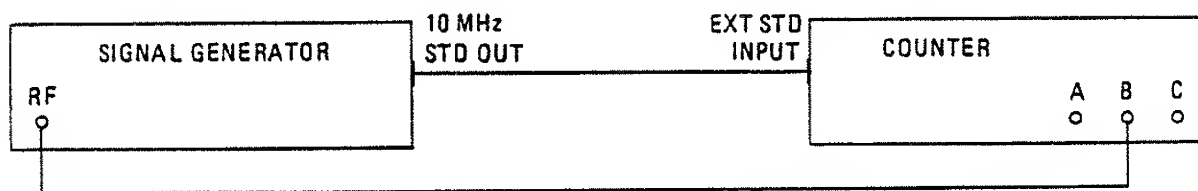

Fig 6.6 Connections for Input B System Adjustment
- (3) Press the RESOLUTION \downarrow key five times until 000 is displayed.
- (4) Connect the test equipment as shown in Fig. 6.6.